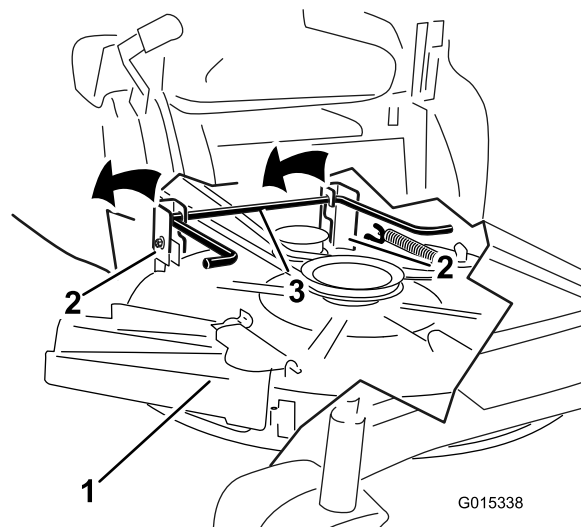

Figure 57
5. Lift the rear of the mower deck and guide the hanger brackets over the rear lift rod (Figure 57).